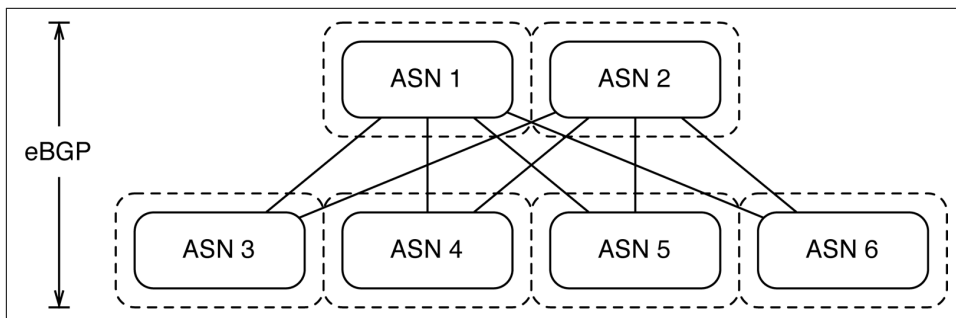

Figure 7-6. Using eBGP in an IP Fabric
Let's take a closer look at the eBGP design in an IP Fabric. Each switch represents a different autonomous system (AS) number and each leaf must peer with every other spine in the IP Fabric, as illustrated in Figure 7-6.